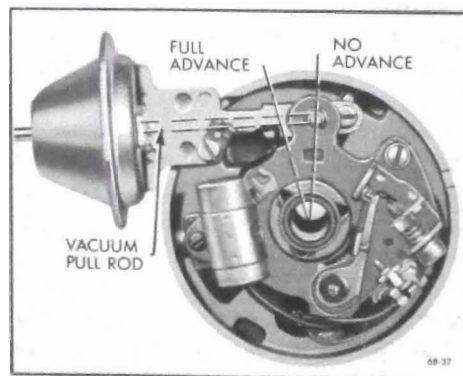

Figure 68-30 - Vacuum Advance Mechanism
3. *Vacuum Advance* is governed by manifold vacuum. The contact point set is mounted on a breaker plate which is located below the centrifugal advance mechanism and uses the outer diameter of the upper shaft bushing for its bearing surface. The movable breaker plate is held in position on the upper shaft bushing by a retainer. The vacuum unit is mounted on the distributor base and under the movable breaker plate so that the breaker plate can be rotated around the distributor cam by a link from the vacuum unit. See Figure 68-30.